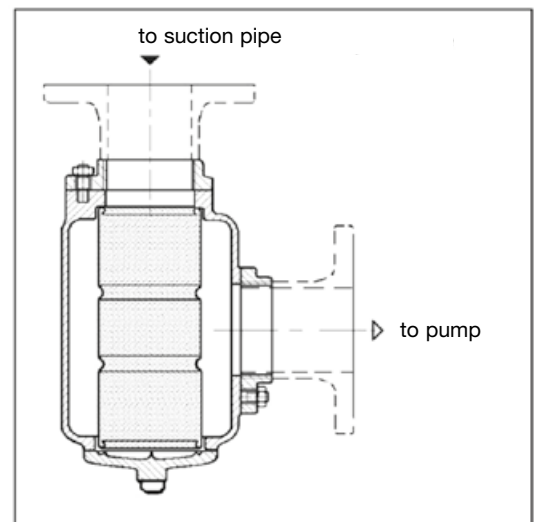

Fig. 10
- q) Install a filter in the suction line to retain any impurities or foreign bodies in the liquid, which could cause the pump to block. The filter basket must have a sufficiently large free passage surface to avoid excessive pressure drops at the pump inlet. Pay particular attention to the size of the filter in the presence of high viscosity. The mesh passage holes must be large enough not to impair proper functioning. The maximum filter hole size is 0.5 mm for all pump models (V 25-2 up to V100-2). Install the filter in such a way that it can be easily cleaned. Pay attention when mounting the filter: the flow must follow the manufacturer's instructions and in any case be such that it is directed from the inside to the outside of the cartridge (Fig. 10).